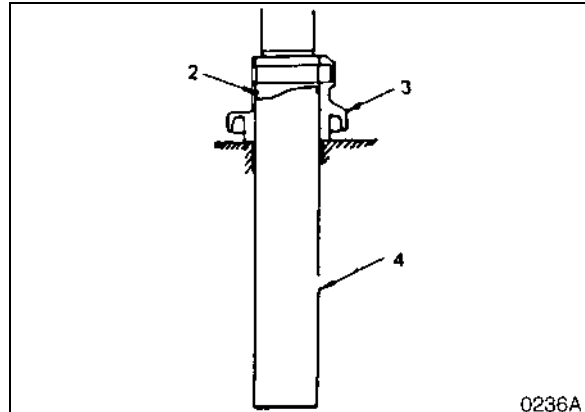

Figure 34
1. Degrease, clean and dry all parts before reassembly. Insert bushing (7, Figure 34) into roller.
2. Apply grease to the O-rings (2, Figure 34) and insert into axle.